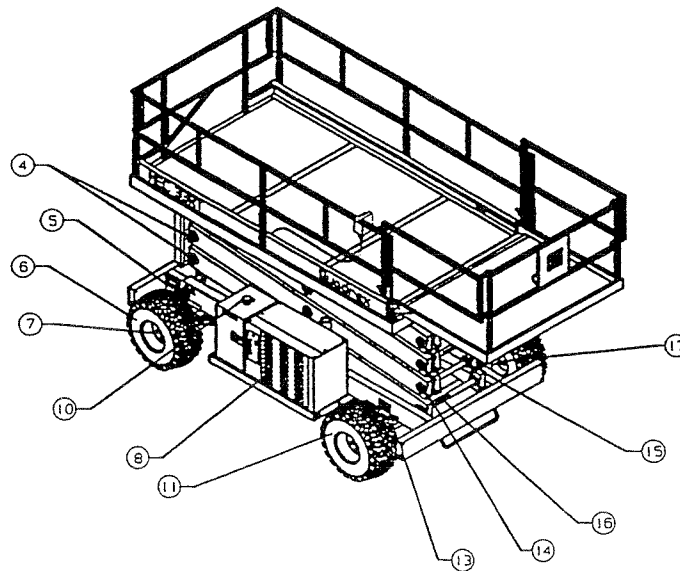

Fig. 4-7 Quadrex RT Full Machine
4. Broken or Missing Retaining Rings on Scissor Pivot Pins (Fig. 4-7) - check for missing or broken retaining rings on exposed ends of pivot pins.